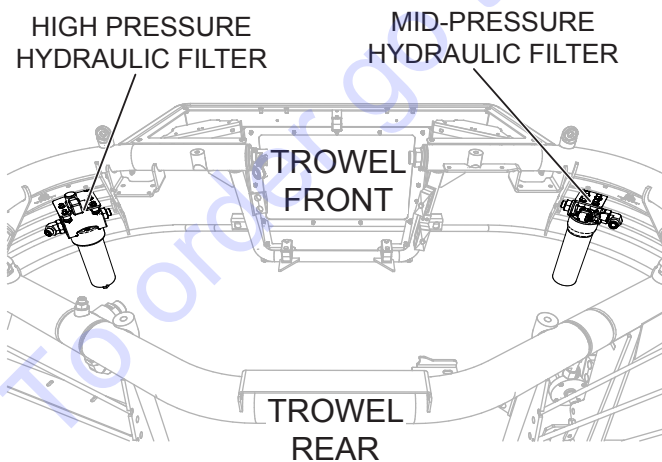

Figure 43. Hydraulic Oil Filters
1. Change the medium and high hydraulic filters and oil (Figure 43) after the first 100 hours of use, then every 250 hours. Use 10-micron absolute synthetic media filters.